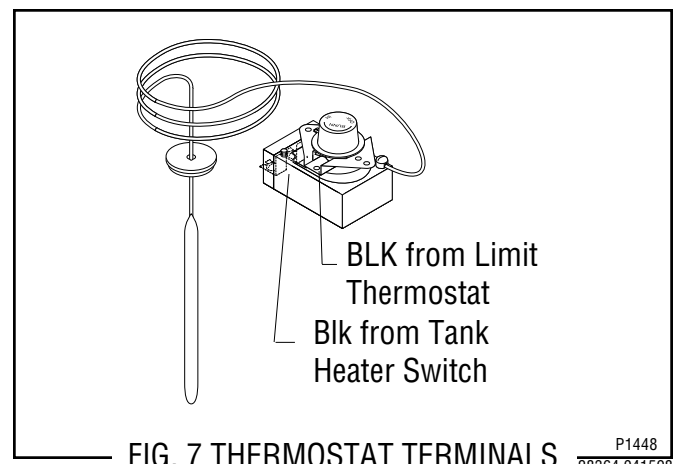

FIG. 7 THERMOSTAT TERMINALS
11. Refer to Fig. 7 and reconnect the wires.